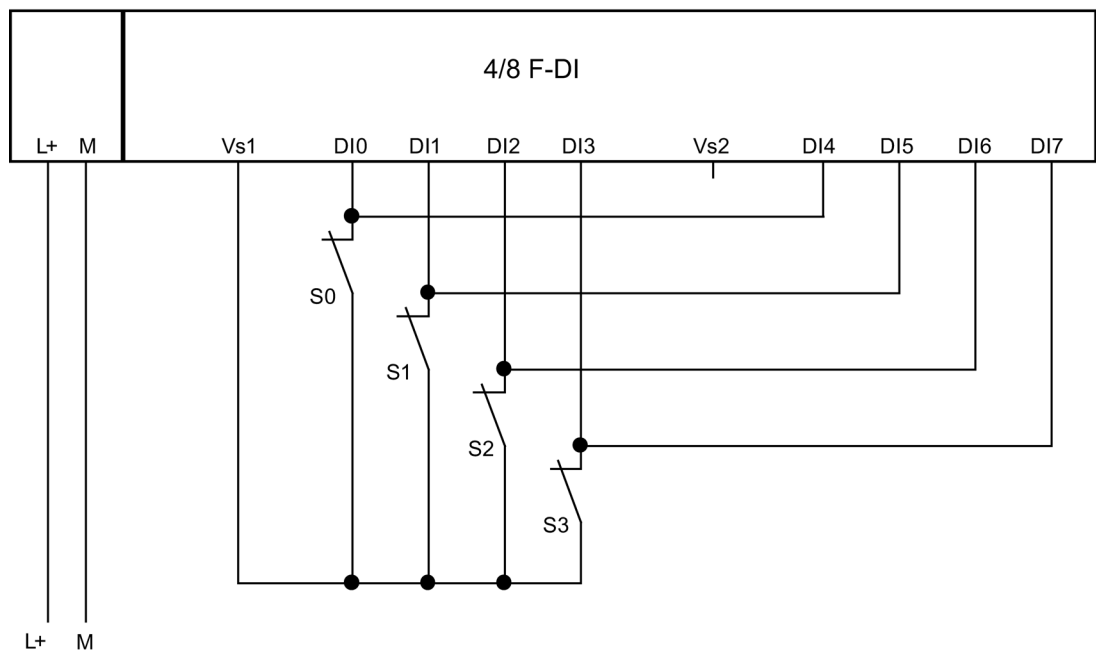
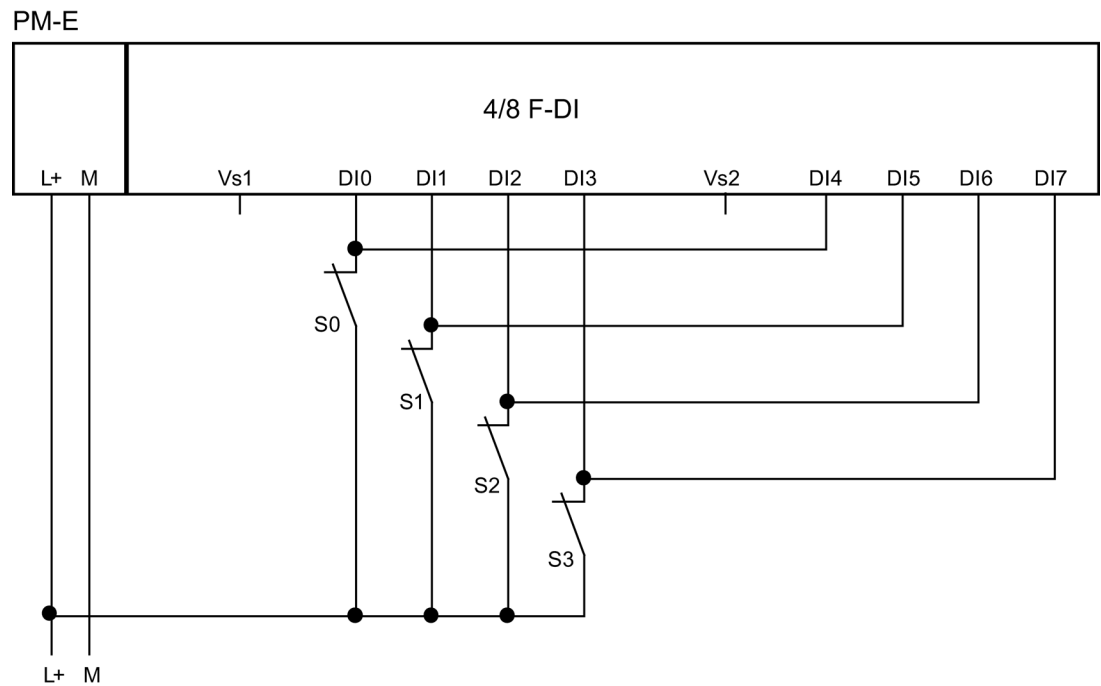

Figure 7-21 Wiring diagram EM 4/8 F-DI DC24V - one sensor connected via one channel to two inputs, internal sensor supply
Figure 7-22 Wiring diagram EM 4/8 F-DI DC24V - one sensor connected via one channel to two inputs, external sensor supply
- Application 2.1, see Figure 7-21 Wiring diagram EM 4/8 F-DI DC24V - one sensor connected via one channel to two inputs, internal sensor supply (Page 136) and Figure 7-22 Wiring diagram EM 4/8 F-DI DC24V - one sensor connected via one channel to two inputs, external sensor supply (Page 137)